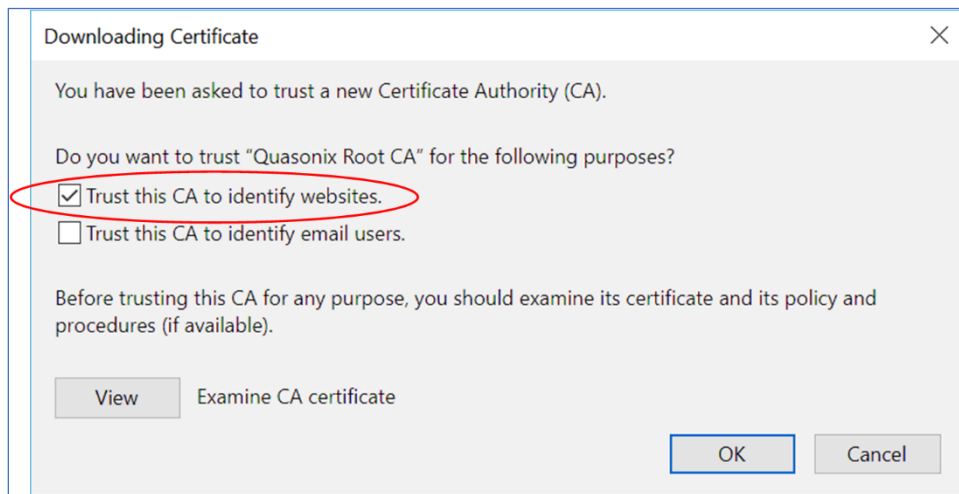

Figure 333: Firefox Downloading Certificate Window
7. The Downloading Certificate window displays, as shown in Figure 333.